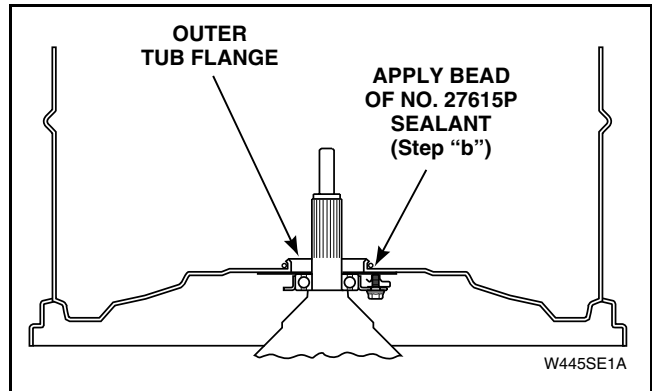

Figure 51
- b. Apply a small amount of No. 27615P Sealant (3M800) around outer surface of tub flange. Refer to *Figure 51*. Obtain sealant from local parts distributor.